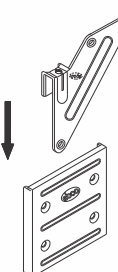

Fig.3
- Can be used as set of 2 on top hung or set of 4 as shown in fig. 3.
3. Place the hooks on the wall vertically & screw them as shown in fig.3 Kindly note details 'X' & 'Y'.
3. Hook cabinet onto the bracket (Refer Fig. 3).
3. Vertical and horizontal adjustment can be achieved with a screw driver as shown in Fig. 3.